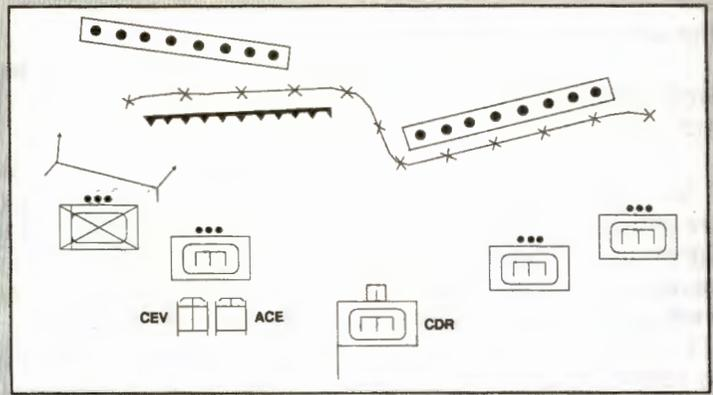

Figure 1
- **Breaching Fundamentals:** Suppress, obscure, and reduce (SOSR) (Figure 1). Understand what these terms mean and make sure your actions are coordinated and synchronized with these key activities. Breaching actions performed by the maneuver forces cannot succeed unless you are aware of the total plan of fire support, the movement through the obstacle and to the objective, the needed lanes through the obstacle, when and where obscuring smoke is placed, how long it will last, and how you can get more. Securing the far side is key to effectively breaching any obstacle; you must know how this will happen, who will do it, and what engineer forces will go forward. Far-side security provides protection and time to reduce the obstacle to support the task force scheme of maneuver.